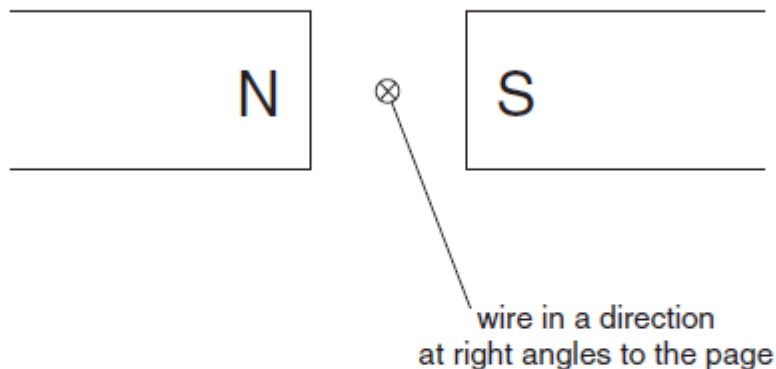

Fig. 8.1
- 8 Fig. 8.1 shows a long straight wire between the poles of a permanent magnet. It is connected through a switch to a battery so that, when the switch is closed, there is a steady current in the wire.
- (c) This experiment is the basis of an electric motor. Describe two changes to the arrangement shown in Fig. 8.1 that would enable continuous rotation to take place.